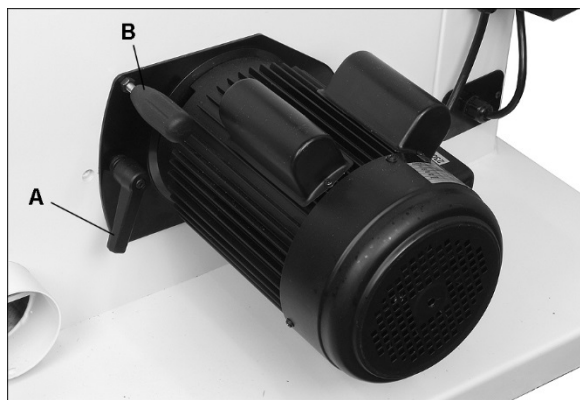

Figure 7-21
1. Loosen lock handle (A, Figure 7-21).
5. Loosen lock handle (A, Figure 7-21). Apply belt tension by slightly pushing down handle (B).
6. Tighten lock handle (A) to secure motor position.
3. Loosen motor lock handle (A, Figure 7-21).
4. Raise motor lift handle (B) and retighten lock handle (A) to hold motor in raised position.
10. Loosen motor lock handle (A, Figure 7-21) and allow motor to lower. Check tension by pushing with moderate pressure on the belt halfway between the pulleys. An adequately tensioned belt will deflect about 1/2". If tension isn't strong enough, push down on motor.
11. Tighten motor lock handle (A).